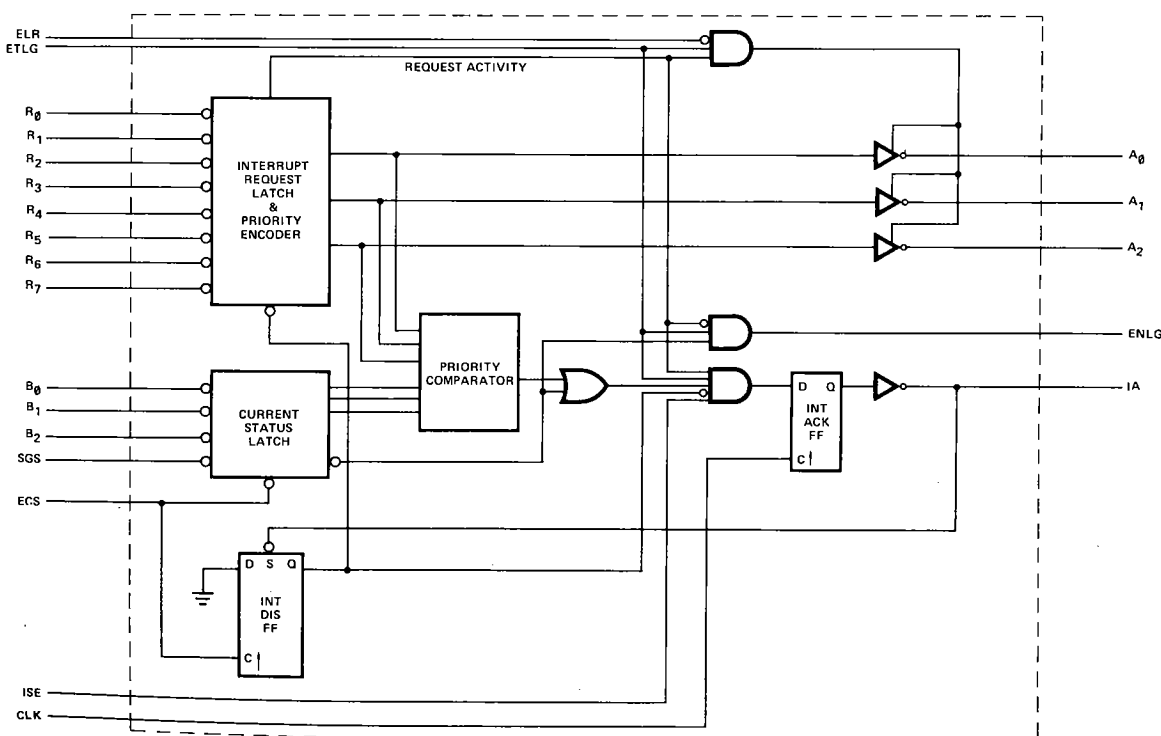

Figure 1. 3214 Block Diagram.
Figure 1 shows the block diagram of the ICU. Interrupt requests pass through the interrupt request latch and priority encoder to the magnitude comparator. The output of the priority encoder is the binary equivalent of the highest active priority request. At the comparator, this value is compared with the Current Status (currently active priority level) contained in the current status latch. A request, if acknowledged at interrupt strobe time, will cause the interrupt flip-flop to enter the "interrupt active" state for one microinstruction cycle. This action causes the interrupt acknowledge (IA) signal to go low and sets the interrupt disable flip-flop.